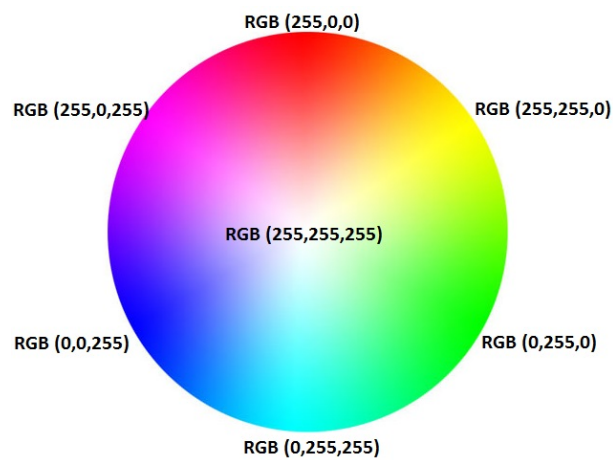

Figure 1.2: 256 color RGB values
Images are represented by 2-D arrays or a function of 2 variables,  $f(x, y)$ , where  $x$  and  $y$  refer to the pixel row and column. At each location, the function outputs one or more binary numbers. When a single binary number is provided, the image is considered a gray-scale. For example, using an 8-bit binary number provides a 256 values between black (0) and white (255). Instead, if 3 binary numbers are provided at each pixel location, these can be used to represent a colour image. A common format used is RGB, where the numbers represent the range of colours for red, green and blue. Using 3 8-bit numbers for RGB can provide  $256^3$ , or 16777216 colors, as seen in Figure 1.2.